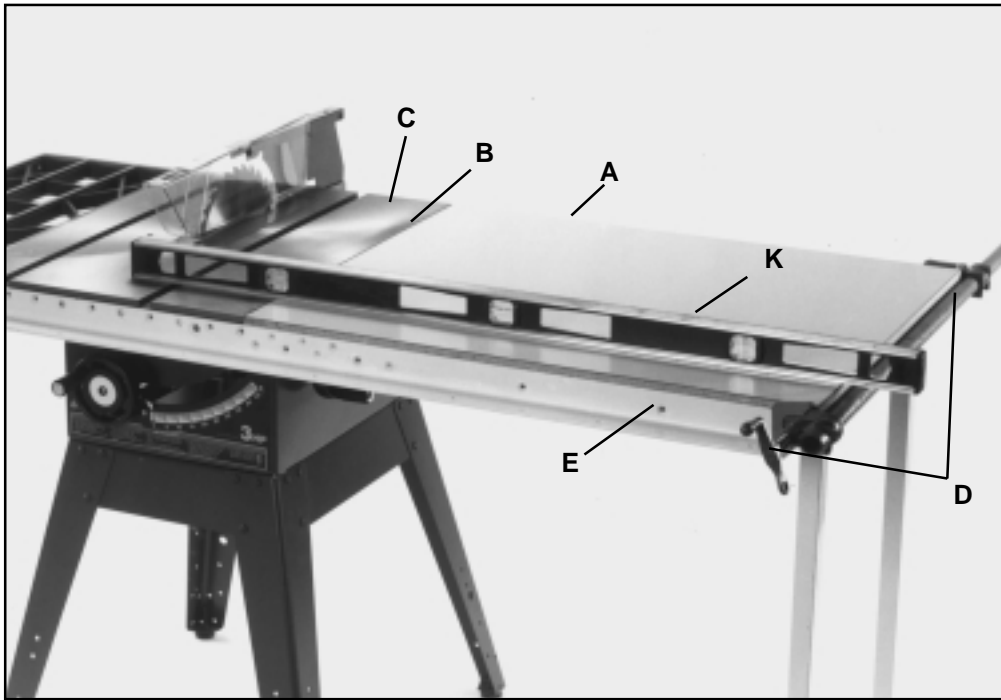

Fig. 20
1. Place table assembly (A) in position between the front and rear rails, as shown in Figs. 20 and 21. Make sure end of table (B) is flush against saw table (C) and using a bar clamp (D) snug up end of rails to hold table in position. Using a straight edge (K) make certain table (A) is in the same plane and level with saw table (C). Lightly tap table (A) up or down and adjust leveling screws in bottom of legs to accomplish this. When you are certain table (A) Figs 20 and 21, is level and in the same plane with saw table (C), tighten bar clamp (D) to hold everything in position. Then drill 1/4" through holes through the front and rear of the extension table using the lower row of holes (E) in the front and rear rails as a template. The number holes to be drilled will depend on the length of extension table.